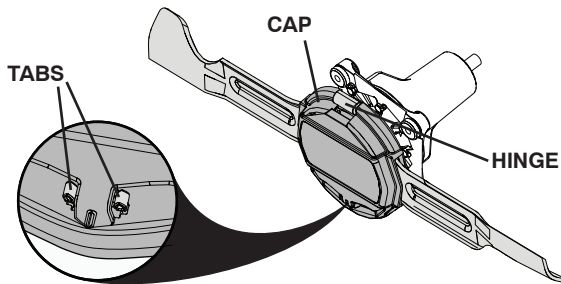

Fig. 29
## BLADE REPLACEMENT (See Figs. 29 - 34)
- Squeeze tabs inward to release cap. Remove by lifting cap from hinge and set aside. (See Fig. 29.)